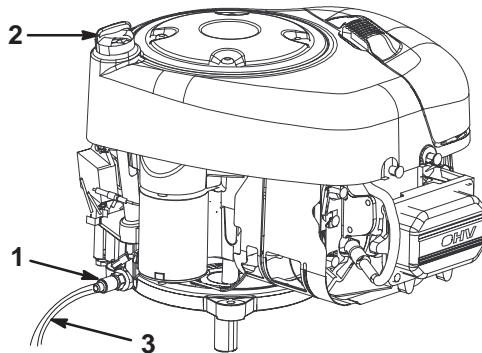

Figure 18
- Insert the draining tube onto the oil drain valve (Fig. 18).
10. Open the oil drain valve (Fig. 18).